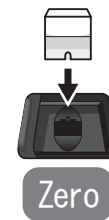

Fig.4
3. Put the Cell filled with the pretreated sample in the cell box and press [Zero]. (Fig.4)